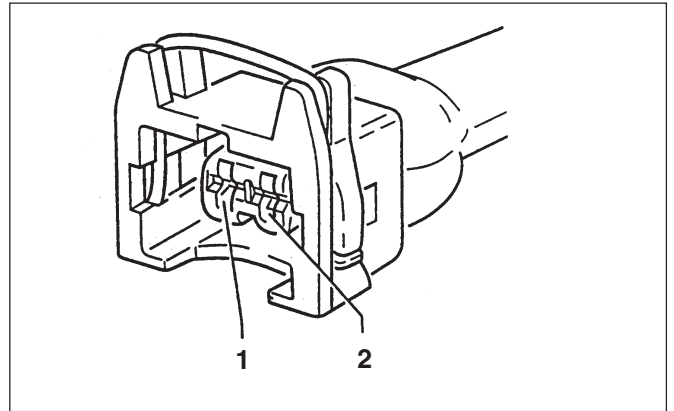

Fig. 5
- Measure the voltage between the contacts and engine ground (see → Fig. 5).
- As the pin assignments of the connector on the EPT vary, it must first be determined on which contact the supply voltage is present (see → Fig. 5).